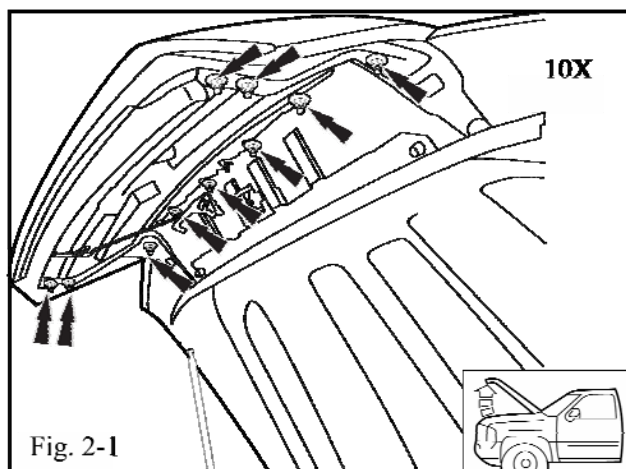

Fig. 2-1
- With the hood open, and remove ten (10) bolts from the underside of the hood (Fig. 2-1).